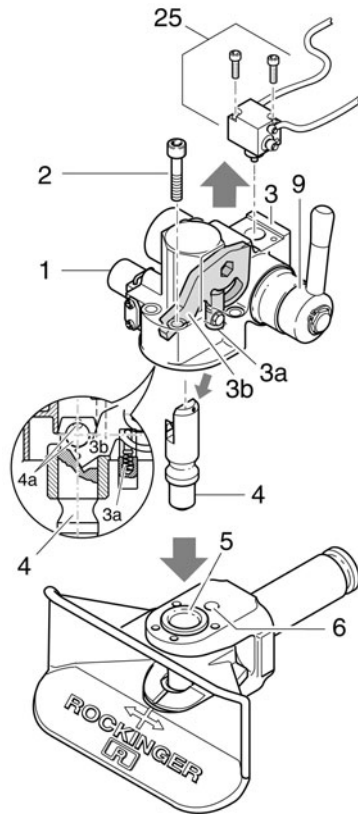

Fig. 1
1. Replacement of the automatic unit and the coupling pin (see fig. 1)